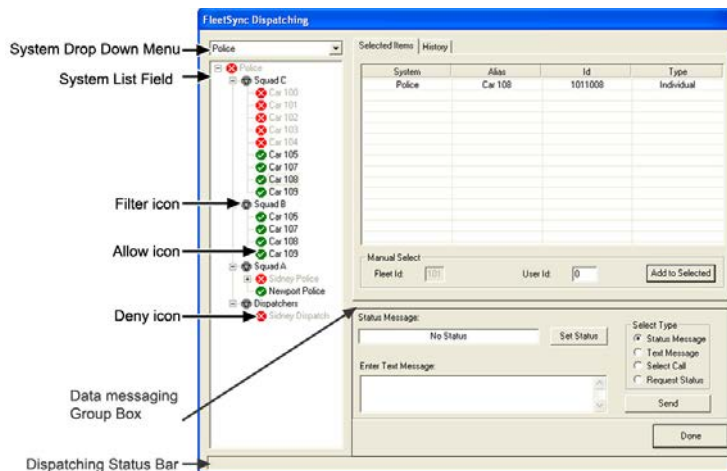
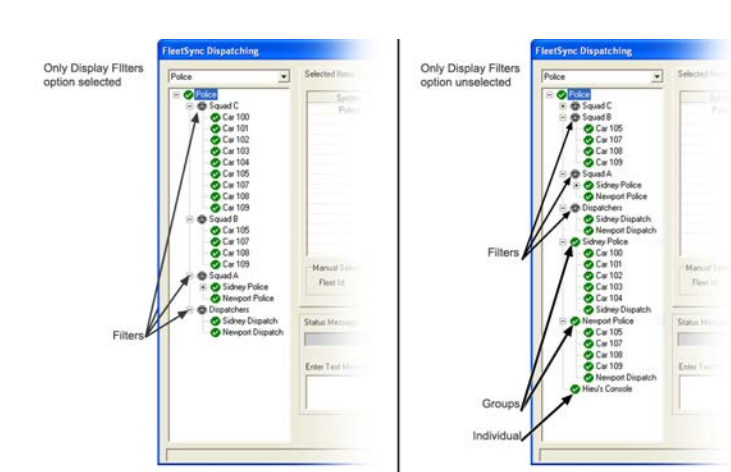

FIGURE 103. FleetSync Dispatching Window
FIGURE 104. System Displays Only Filters Example
The **FleetSync** function creates a button to open the FleetSync Dispatching window, shown in Figure 103.
Systems can be configured, by the console admin, to display filters only. In that case, only components affiliated with a filter, shown in Figure 104, appear in the filter list. Otherwise, all components, including components with deny icons (permission to place calls is denied), shown in Figure 103, appear in the list.
Filter	The Filter icon indicates the component is a filter. Filters are used to group, sort, and label the components contained in the filter, see Figure 104. To view or hide filters, do one (1) of the following: - Click the expand button to view components. - Click the collapse button to hide components.
Allow	The Allow icon indicates the component is available for selection. The console operator can place calls and send status and text messages to these components, see Figure 104.
Deny	The Deny icon indicates the component does not allow broadcast calls, when a system is tagged, or, does not allow interfleet calls when Fleets or Units are tagged, see Figure 104.